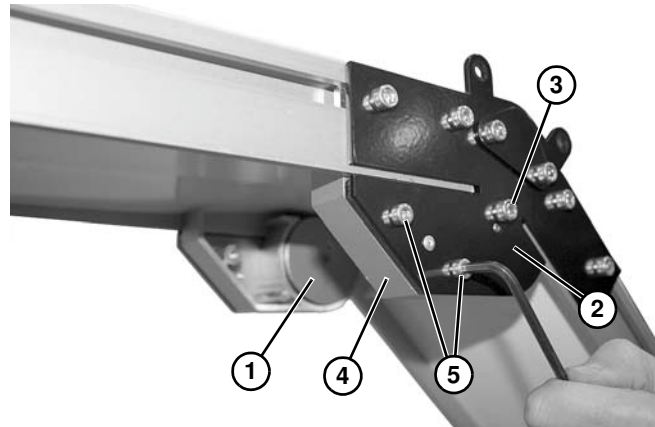

Figure 76
1. If equipped with an upper knuckle, install roller bearing assembly (**Figure 76, item 1**) into knuckle plate (**Figure 76, item 2**) with screws (**Figure 76, item 3**) on both sides of conveyor.
2. Install guard (**Figure 76, item 4**) on both sides of conveyor with screws (**Figure 76, item 5**). Tighten screws to 25 in-lb (3 Nm).